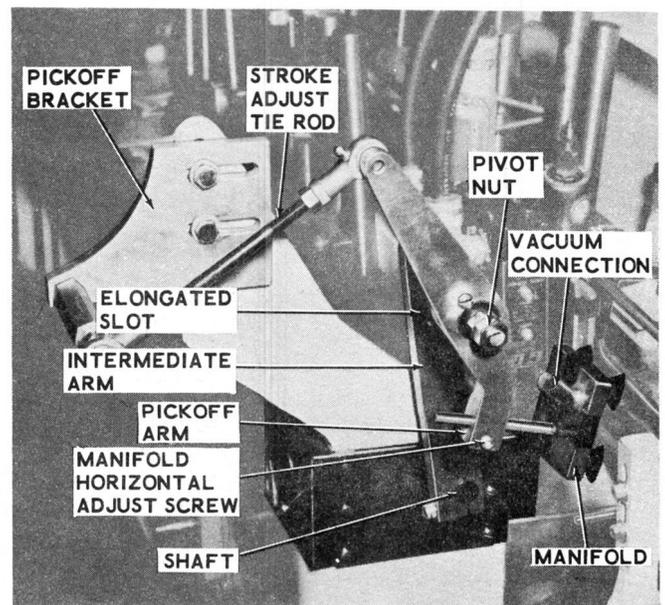
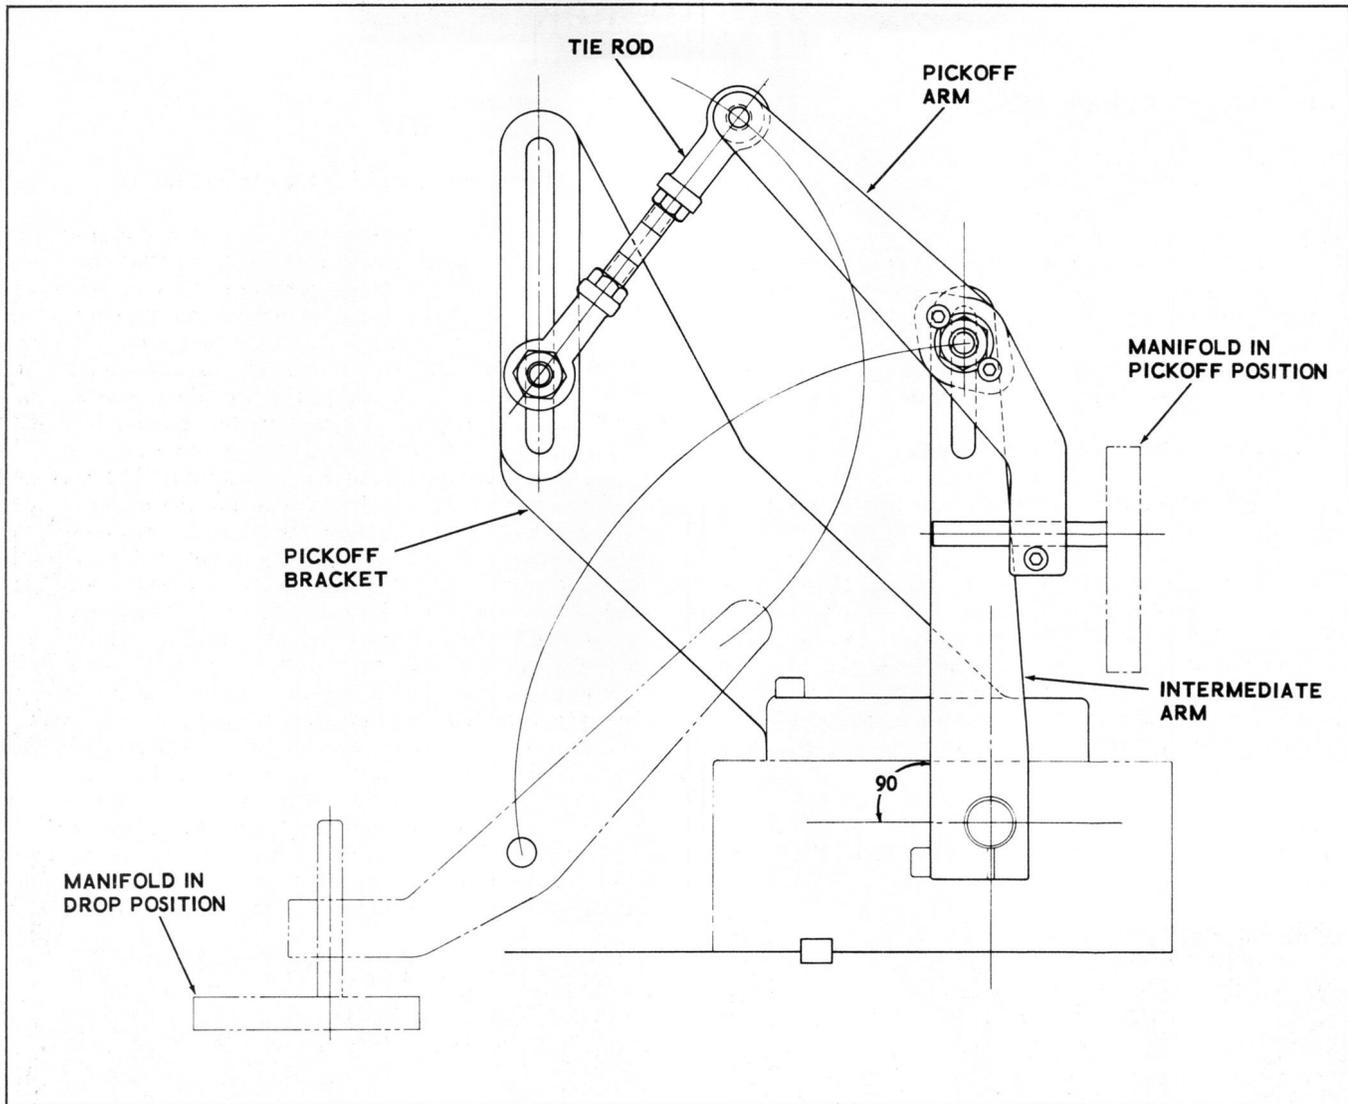
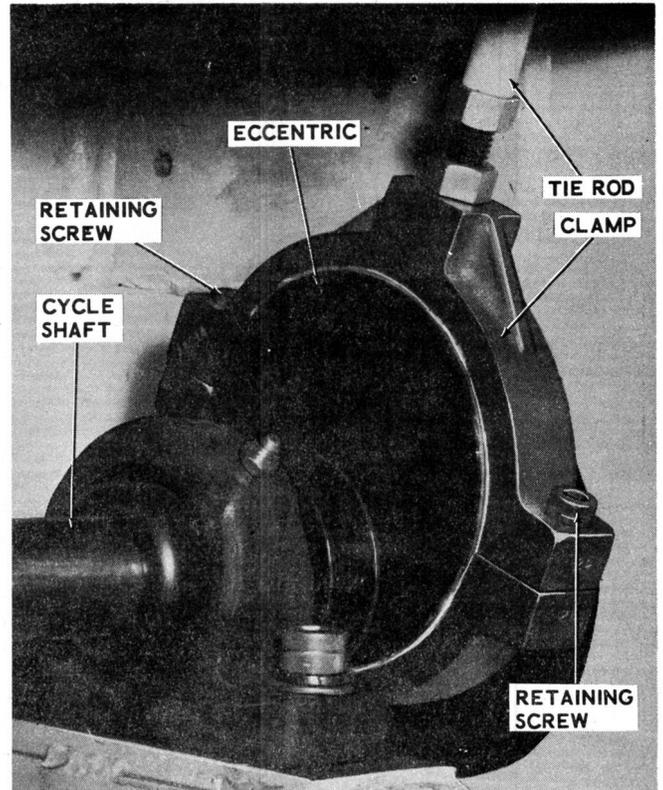

Figure 3-64. Vacuum Pickoff Assembly
Figure 3-65. Vacuum Pickoff Arm Operation
Figure 3-67. Vacuum Pickoff Eccentric
The vacuum pickoff (Figure 3-64) is a combination of a mechanical pickoff function and vacuum system. This system holds the pouch by vacuum sucker cups before the pouch is released from the bag clamp and continues to hold as the mechanism carries the pouch from the packager. The pickoff mechanism is mounted to the cross bracket which supports the dust cover. The mechanical linkage and arms of the mechanism are actuated by a split eccentric on the cycle shaft and is timed with the pouch release mechanism. The linkage can be adjusted vertically to position the sucker cups and horizontally to change the pickoff arm position. The eccentric is connected by a tie rod to a shaft mounted lever. This lever turns the shaft as it is pushed and pulled by the tie rod. An intermediate arm is attached to the other end of the shaft. The intermediate arm is actuated by the shaft to move from a vertical position to a horizontal position and back. The pickoff arm is mounted in a slot in the intermediate arm. A sucker cup manifold is attached to the lower end of the pickoff arm. When the intermediate arm is in the vertical position (Figure 3-65), the sucker cups should be against the pouch. The pickoff arm is linked by a tie rod to the pickoff bracket. As the intermediate arm moves to the horizontal position, the pickoff arm is held at the upper end by the tie rod
a. Jog the machine until the eccentric and connecting tie rod are in full upward position. Adjust the tie rod (Figure 3-67) until the front face of the intermediate arm (Figure 3-64) is 90 degrees from the horizontal surface of the packager.
c. Loosen the manifold horizontal adjust screw (Figure 3-64) and move the manifold closer to or away from the pouch as required by moving the manifold shaft in the end of the pickoff arm. Tighten the screw after adjustment is made.
b. Loosen clamp on cycle shaft eccentric (Figure 3-67) by loosening the two socket head screws and rotate the clamp forward or backward to bring the sucker cups into contact with the pouch.